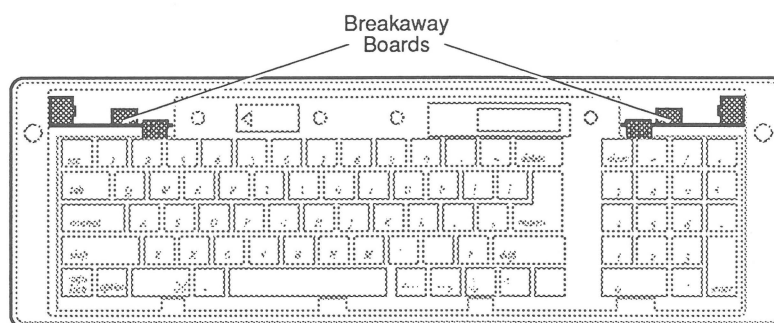

Figure 1-3 Keyboard Breakaway Boards
5. Before you remove the keyboard mechanism, notice how the breakaway boards (with Apple Desktop Bus connectors) fit into the bottom case (**Figure 1-3**).
1. Place the keyboard mechanism in the bottom case. As you do so, check that the black metal teeth of the keyboard mechanism are in the plastic slots of the bottom case. Slip the small breakaway boards into place vertically (**Figure 1-3**).